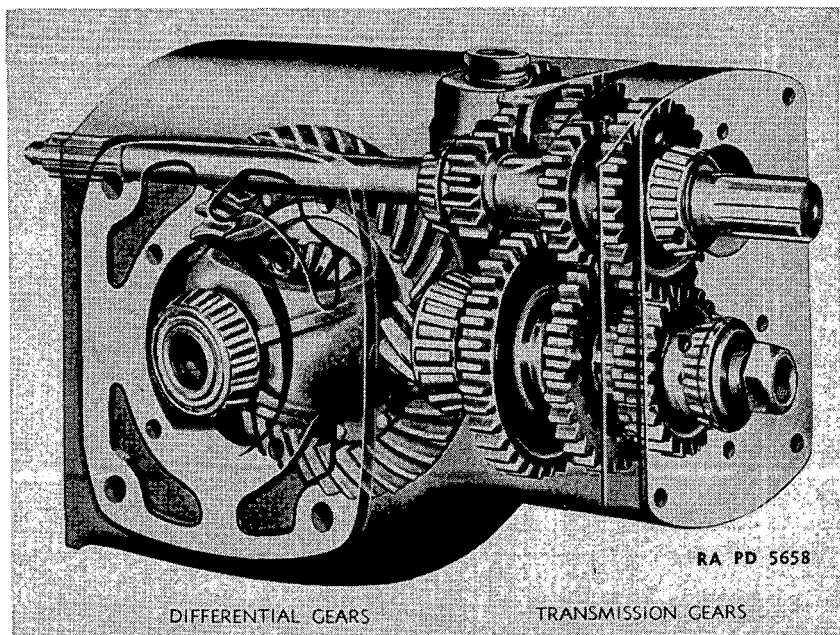

FIGURE 21.—Transmission and differential—phantom view.
57. Transmission and differential.—*a. Description.*—The transmission and differential are both installed in the same case, as shown in figure 21. The transmission provides three forward speeds and